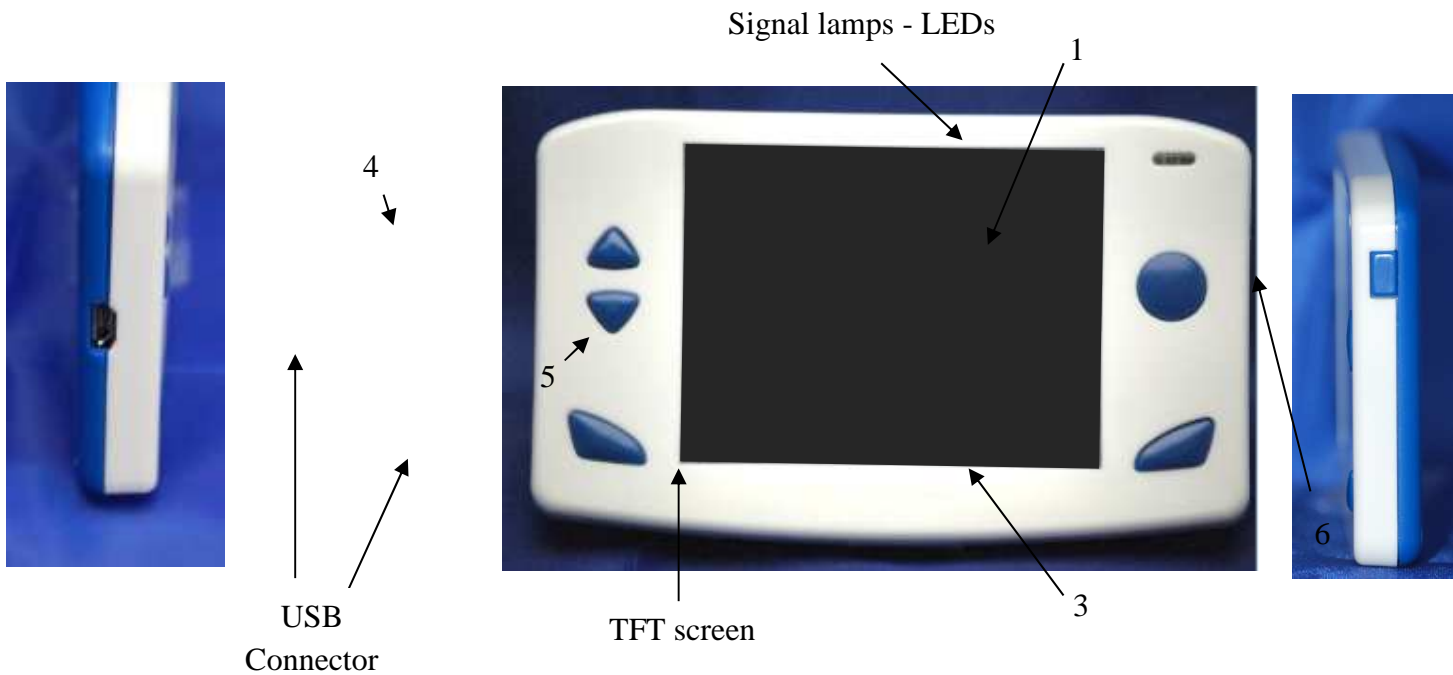

Figure 12 : Description of Aniview® monitor
### **The OK button (ref. 1 Figure 12: Description of the Aniview® monitor)**
### **The MENU button (ref. 2 Figure 12: Description of the Aniview® monitor)**
### **The BACK button (ref. 3 Figure 12: Description Aniview® monitor)**
### **The up arrow button (ref. 4 Figure 12: Description Aniview® monitor)**
### **The down arrow button (ref. 5 Figure 12: Description Aniview® monitor)**
### **The Off button - is used to reactivate the screen (ref. 6 Figure 12: Description Aniview® monitor)**